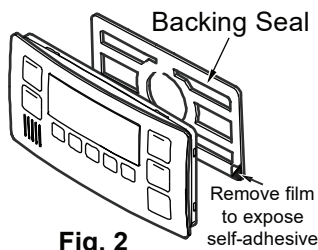

Fig. 2
4. Affix the double sided self-adhesive seal to the back of the water controller (Fig. 2).